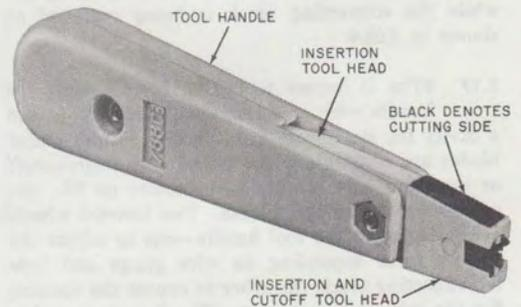

Fig. 11—788D3 Tool, Single-Pair Insertion/Cutoff♦
2.14 The single pair insertion tool (788D3) is supplied as a combination of the handle and insertion head. The reversible ends of the head provide either insertion/cutoff or insertion only (Fig. 11) of a single cable pair.